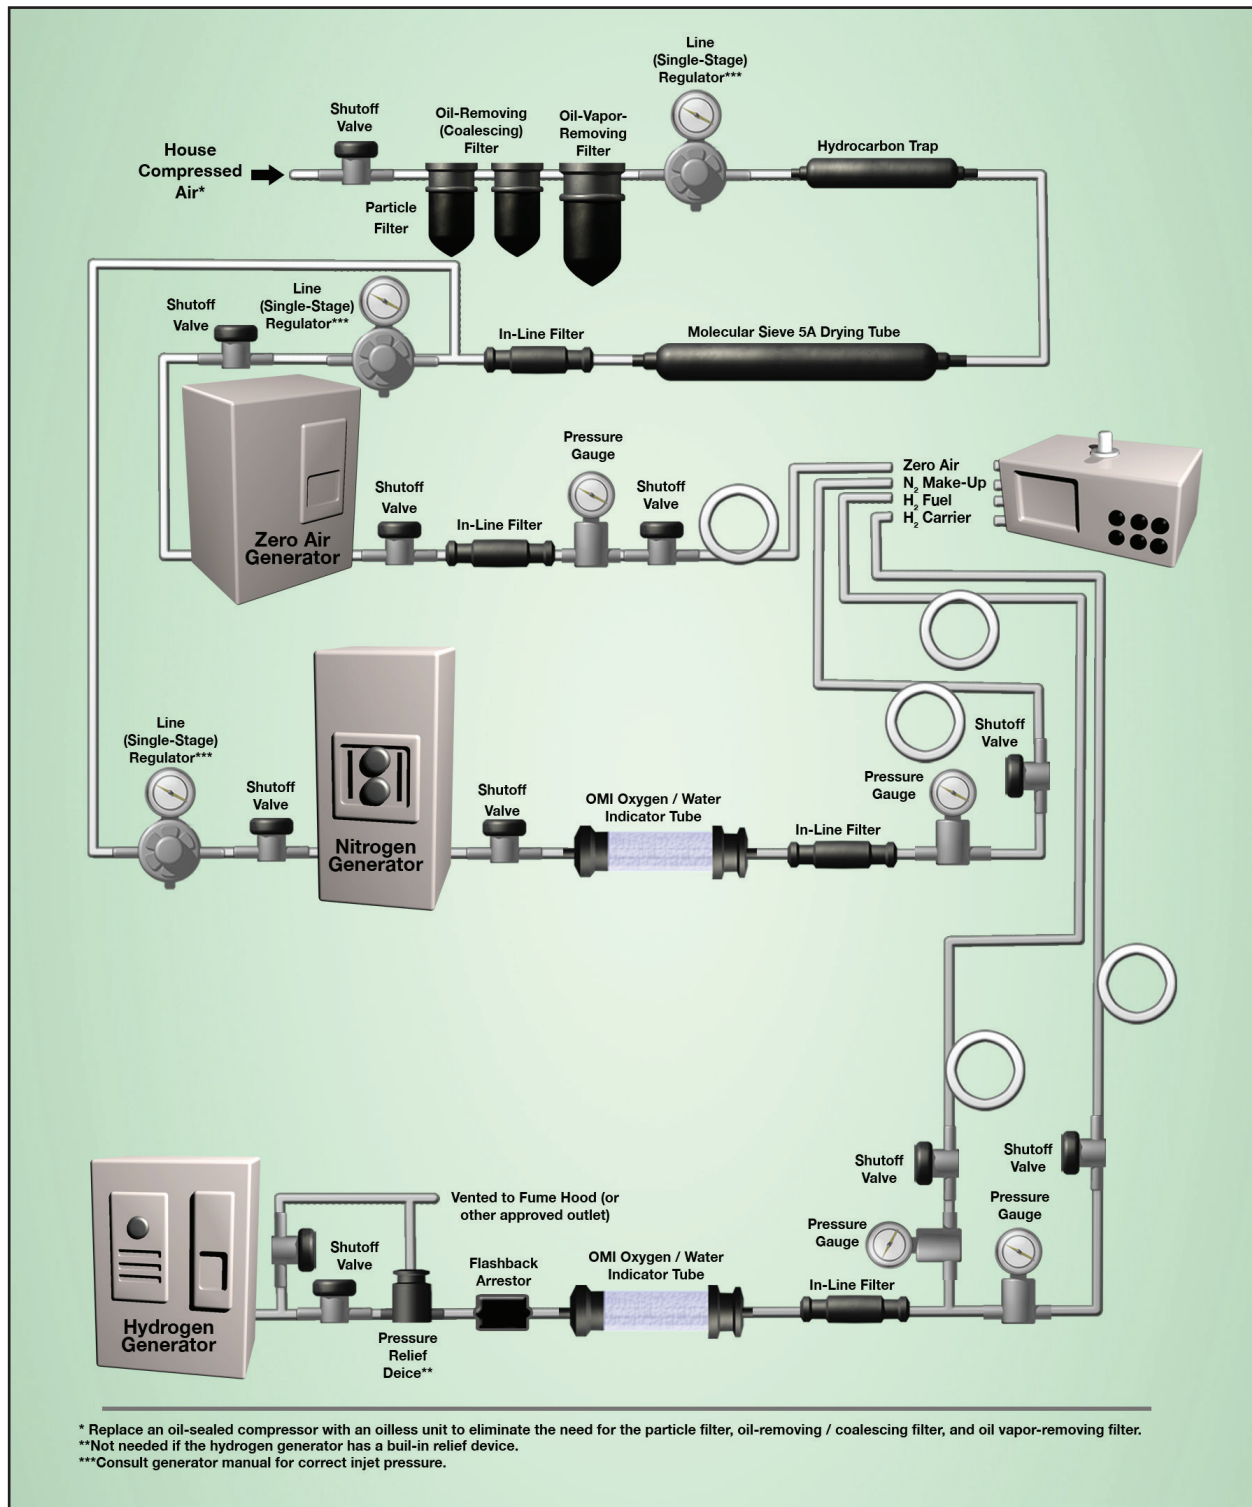

Figure 4: Ideal Configurations for a Single-GC System: All Generator System
5. Consider adding Nitrogen generators and high quality air generators to eliminate cylinders and the use of high-pressure gases in the laboratory. A schematic diagram for a typical system using an inhouse generator is shown in Figure 4 on next page.